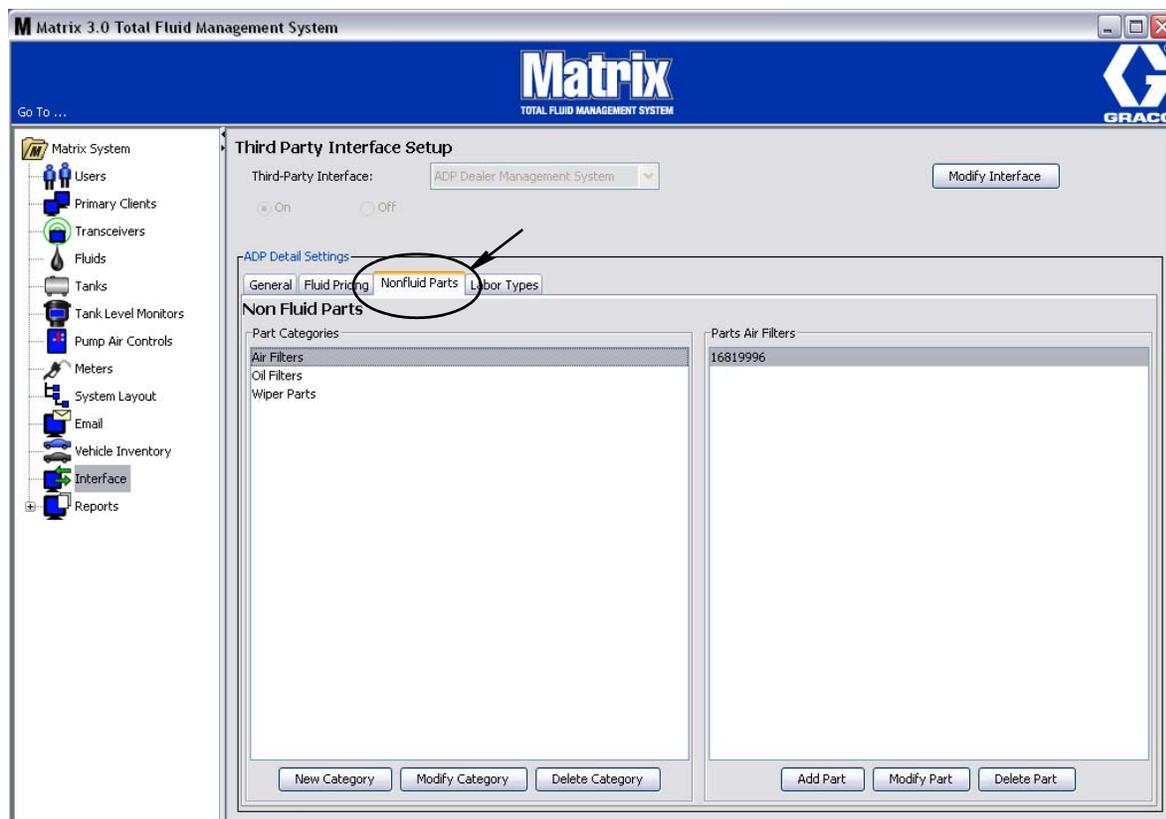

FIG. 206 CDK Global Non-Fluid Parts Tab
The **Non-Fluid Parts** portion of the Matrix CDK Global Interface Setup screen (FIG. 206) allows you to:
2. Click the **OK** button to add the new Part Category to the list displayed on the Part Categories column of the Non-Fluid Parts Screen (FIG. 206, page 152).
3. Click the **OK** button to confirm the changes you have made and revise the list displayed in the Part Categories column of the Non-Fluid Parts Screen (FIG. 206, page 152).